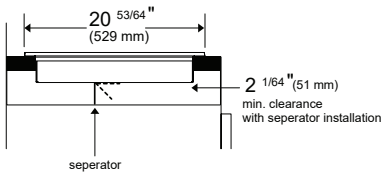

Figure 4
4. **If the cooktop is installed above a drawer or cabinet**, it must be installed the separator. (figure 4) For the separator installation: